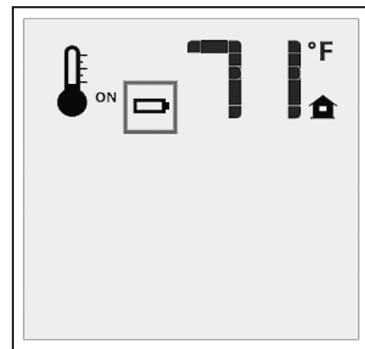

Figure 17: Low Battery Indicator.
**Transmitter:** The life span of the remote control batteries depends on various factors: quality of the batteries used, the number of ignitions of the appliance, the number of changes to the room thermostat set point, etc. When the Transmitter batteries are low, a Battery Icon will appear on the LCD display of the Transmitter (see Figure 17) before all battery power is lost. When the batteries are replaced this Icon will disappear.